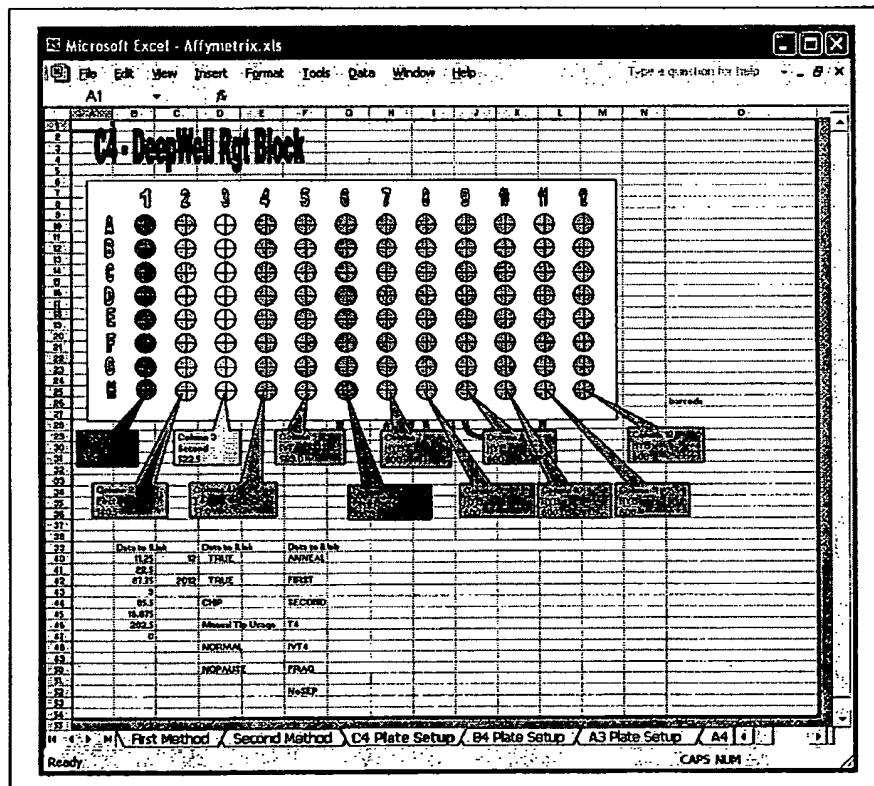

Figure C.3 C4 Plate Setup
2. The third sheet, C4 Plate Setup, has the cold reagent block setup with reagent amounts calculated for the number of samples run, as well as a record of selected options (Figure C.3).
The volumes represented in the Excel spreadsheet (Figure C.3) may not match the volumes listed in this manual. The volumes listed in this manual are the most up-to-date and should be followed. Refer to the most recent version of this manual to obtain the most current values.